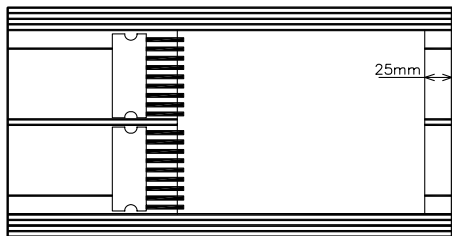
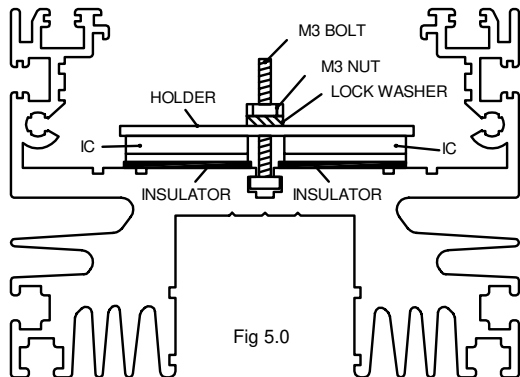

Fig 4.0
Fig 5.0
- ❑ Slide the PCB into the largest slot of the heatsink and position it as shown in figure 4.0. Slide an insulation mica, provided with a drop of heat-conducting paste on both sides, under both IC's, see fig 5.0
- ❑ Slide the hexagonal bolt into the heatsink's slot and secure everything with the metal plate, lock washer and nut. Verify once again whether the distance between the PCB's edge and the heatsink's edge is 25mm (again, see figure 4.0).